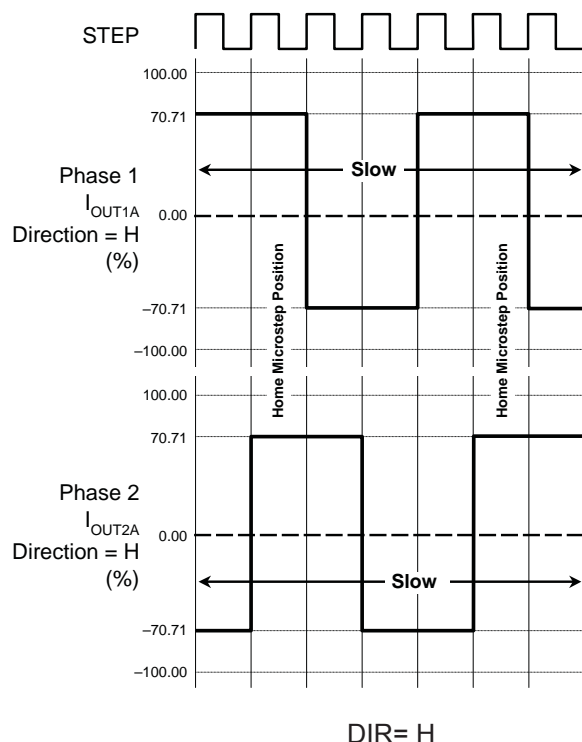

Figure 10. Decay Mode for Full-Step Increments
At power-on or reset, the translator sets the DACs and the phase current polarity to the initial Home state (shown in figures 10 through 13), and the current regulator to Mixed decay mode for both phases. When a step command signal occurs on the STEP input, the translator automatically sequences the DACs to the next level and current polarity. (See table 2 for the current-level sequence.) The microstep resolution is set by the combined effect of the MSx inputs, as shown in table 1.
**Reset Input (RESET).** The  $\overline{\text{RESET}}$  input sets the translator to a predefined Home state (shown in figures 10 through 13), and turns off all of the FET outputs. All STEP inputs are ignored until the  $\overline{\text{RESET}}$  input is set to high.